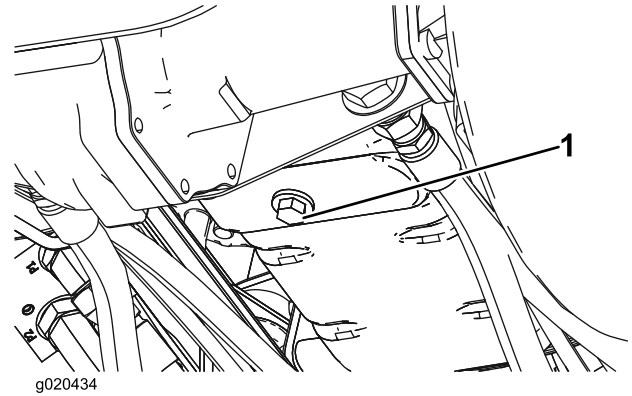

Figure 50
1. Remove the drain plug (Figure 50) and let the oil flow into a drain pan. When all the oil is drained, install the drain plug.